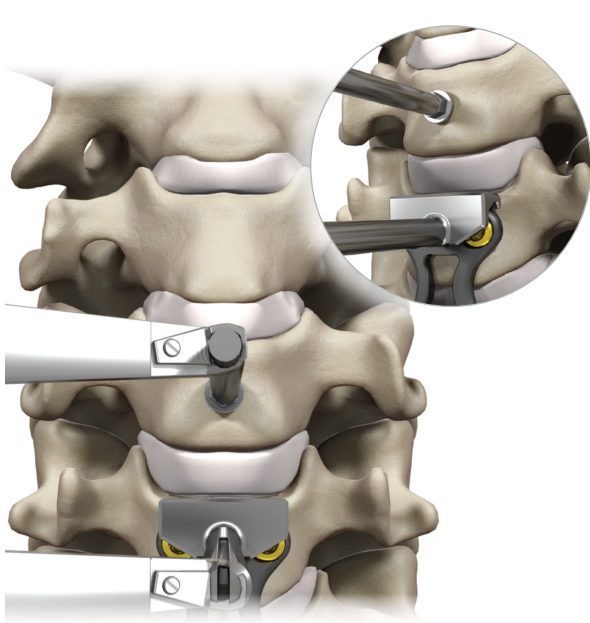

Figure 47
- For placement adjacent to existing plate hardware, the Optio-C distraction pin Instruments can be used with a Caspar distractor over the existing plate hardware in lieu of a Caspar pin in that vertebral segment (Figure 47).